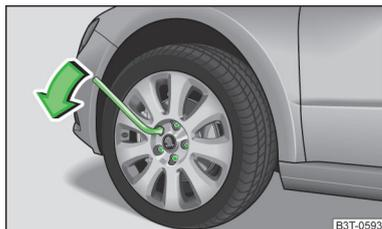

Fig. 179
- Grip the wrench at its end and turn the bolt about **one** turn in the direction of the arrow » Fig. 179.
- Grip the wrench at its end and turn the bolt against the direction of the arrow » Fig. 179 until it is tight.